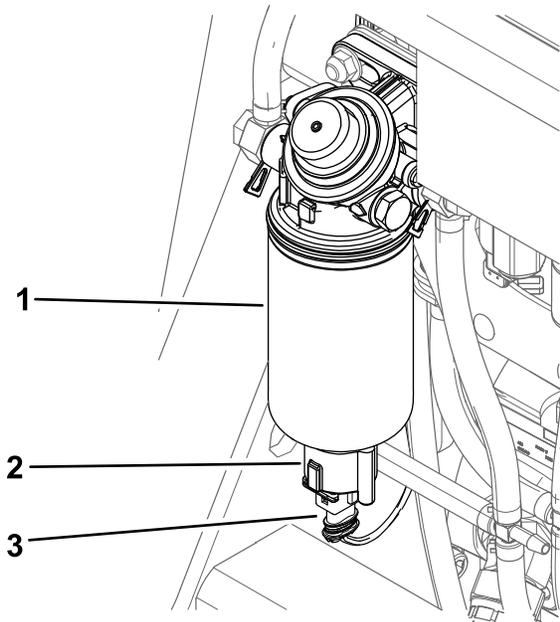

Figure 57
6. Disconnect the wire harness from the water separator (Figure 57).
8. Install the switch (Figure 57).
9. Connect the wire harness to the switch (Figure 57).
6. Unscrew the switch and drain the water separator (Figure 57).
7. Unscrew the switch from bottom of the filter canister and allow the water to drain (Figure 57).